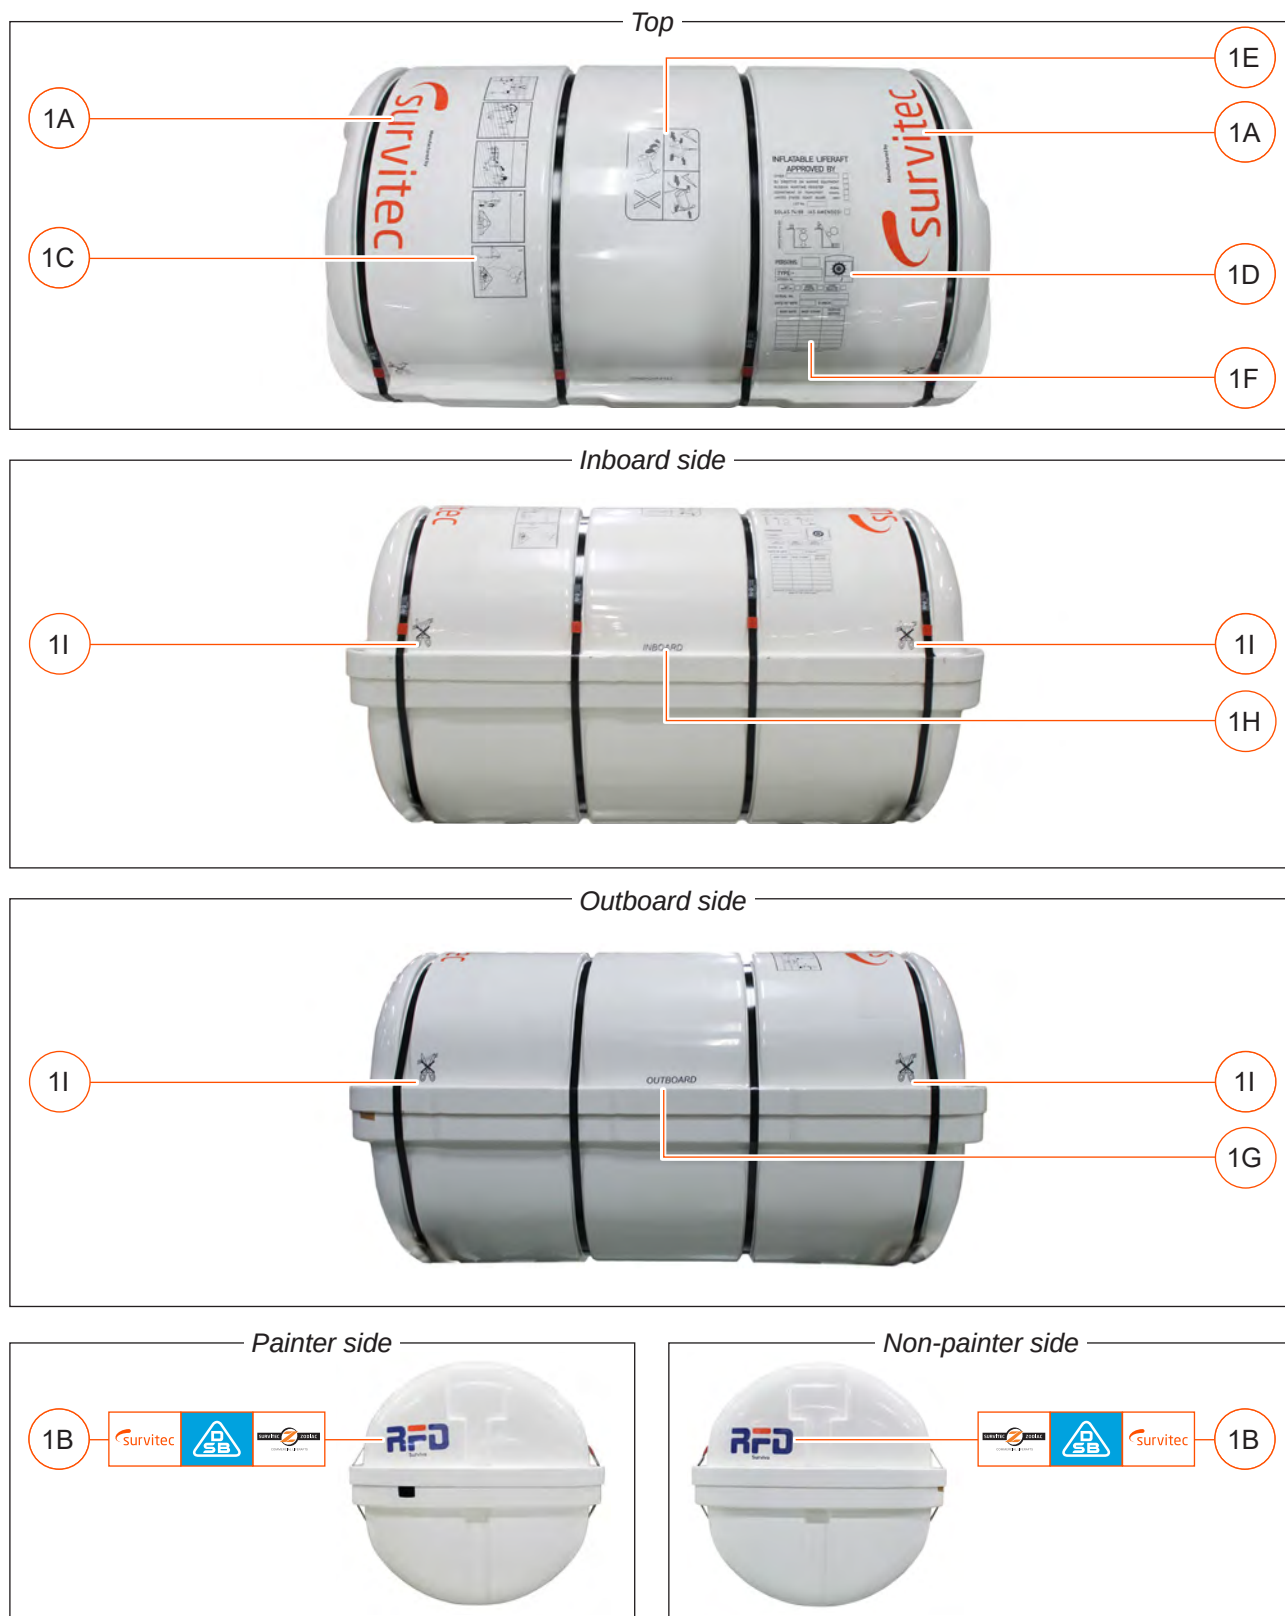

Figure 9
- Mk 14 size 12. Refer to **Figure 9** for label positions.